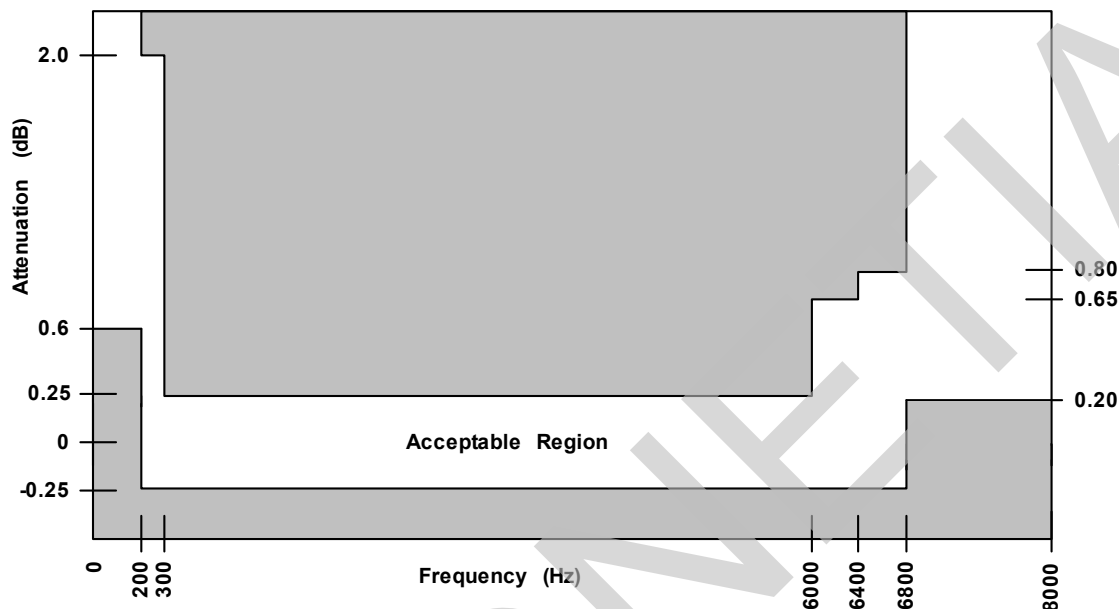
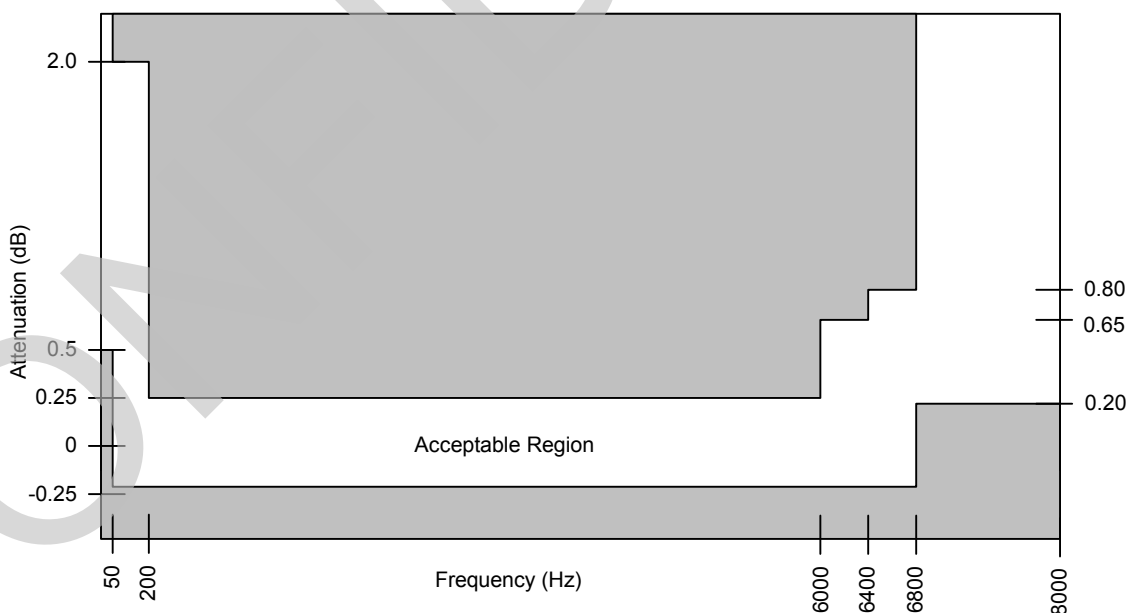

Figure 27 - Transmit (A to D) Path Attenuation vs. Frequency- (with High Pass Filter Enabled)
Figure 28 - Receive (D to A) Path Attenuation vs. Frequency
3. See Figure 27, "Transmit \(A to D\) Path Attenuation vs. Frequency- \(with High Pass Filter Enabled\)" on page 46 and Figure 28, "Receive \(D to A\) Path Attenuation vs. Frequency" on page 46.
The signal attenuation in either path is nominally independent of the frequency. The deviations from nominal attenuation will stay within the limits shown in Figure 27 and Figure 28. The reference frequency is 1014 Hz and the signal level is -10 dBm0.